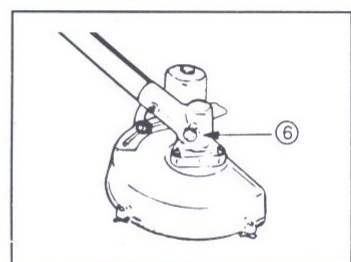

Fig. 12
4. Check the gear housing for lubricant every 50 hours of operation. Remove the grease fill plug to check the lubricant level. It should be up to the bottom edge check hole. If low, bring up to, but not over, the bottom edge with a good quality, lithium-based, #2, multi-purpose grease. Securely tighten the fill plug to prevent leakage (Fig. 12).